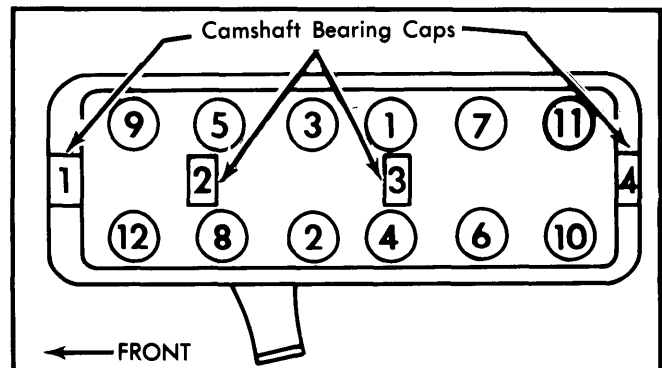

Fig. 1 Cylinder Head Tightening Sequence (Loosen in Reverse Order)
2) Install guide pins in right front and left rear cylinder head bolt holes and place DRY gasket in position with numbers facing UP. Do NOT use sealer. Install head bolts and tighten in three steps following the sequence illustrated in Fig. 1: Step 1 — 35 ft. lbs. (4.8 mkg); Step 2 — 50 ft. lbs. (6.9 mkg); Step 3 — 65 ft. lbs. (9.0 mkg). Run engine to operating temperature of 122°F (50°C). Stop engine and repeat tightening sequence, again torquing bolts to 65 ft. lbs. (9.0 mkg).